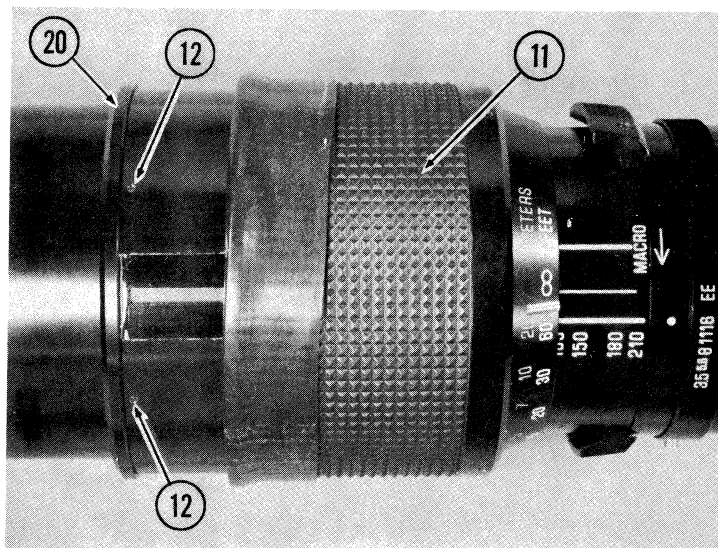

Fig. 63
- 11.1 Roll Vinyl Grip (11) to position shown in Fig. 63.
- 11.2 Adjust Screws (12), (two on each side of straight slots in Zoom Collar (20) inward to increase drag, outward to decrease drag. (Fig. 63)